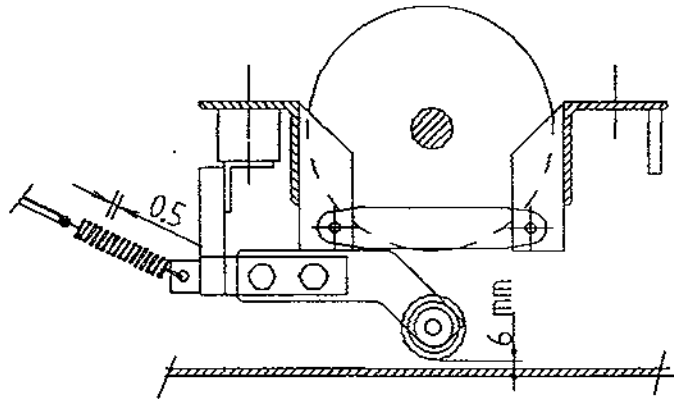

Fig 10
2. The brake spring is extended so that there is a 0.50mm gap between its coils (Fig 10.).
3. Set the gap between the brake trailing arm roller and the floor to 5 - 7 (fig. 10). Note: This gap will decrease as the brake lining wears. If the spring is adjusted this distance must also be reset.